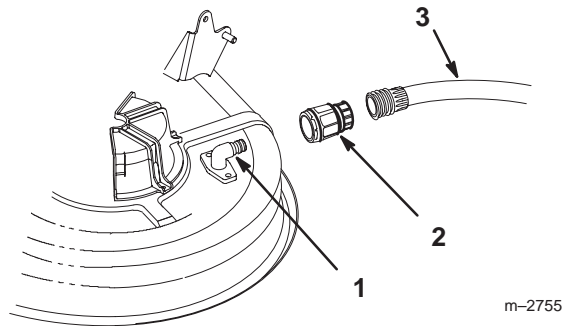

Figure 7
- Attach coupling to the end of a garden hose and snap onto mower washout fitting, turn water on high (Fig. 7 or 8).